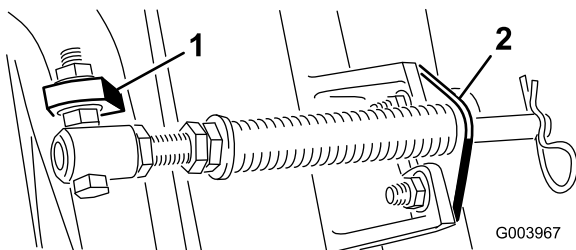

Figure 5
- C. Mount the spring-tube bolt to the opposite tab on the carrier frame and secure it with the flange nut. Position the bolt head on the outer side of the tab as shown in Figure 5.
D. Mount the rod bracket to the cutting unit tabs with the carriage bolts and nuts (Figure 5).